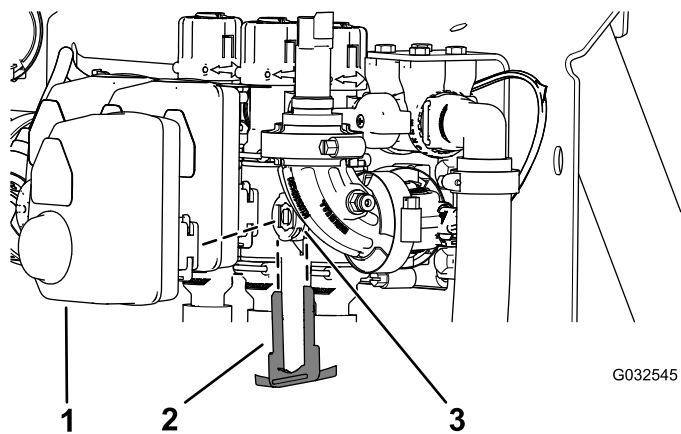

Figure 113
2. Remove the retainer that secures the actuator to the manifold valve for the section valve or agitation valve (Figure 113).